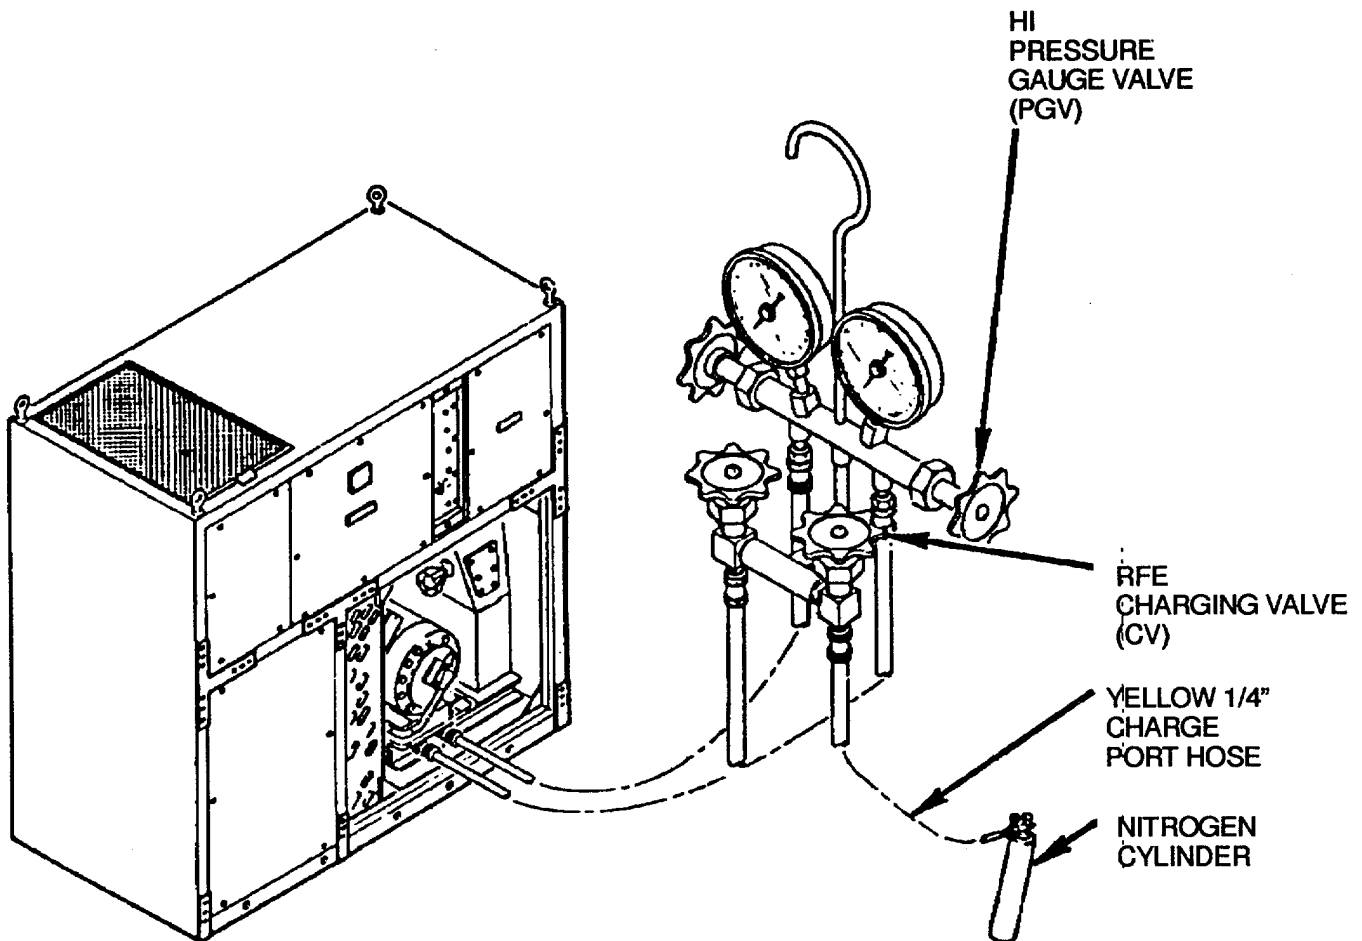

Figure 5-5. Purging Refrigerant System
2. Connect yellow 1/4 inch (0.64 cm) charging hose (Figure 5-5) from charge port to nitrogen regulator and dry nitrogen cylinder.
5. Open charging valve (CV) on service manifold.